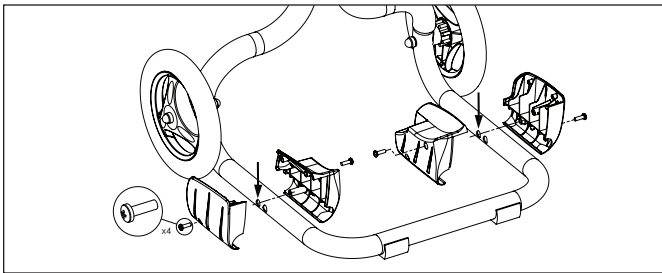
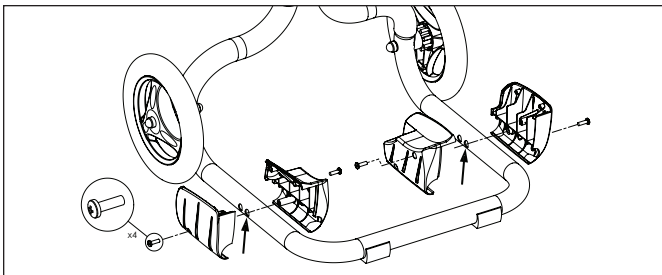

Figure 10. Attaching the Support Blocks (Polaris 9300 Sport & 9300xi Sport)
Figure 11. Attaching the Support Blocks (Polaris 9400 Sport)
- Attach the support blocks to the caddy using four (4) screws as shown in Figures 10 and 11. For the Polaris 9300 Sport and 9300xi Sport, see Figure 10 for orientation and positioning of the blocks. For the Polaris 9400 Sport, see Figure 11 for the correct orientation and positioning of the blocks.